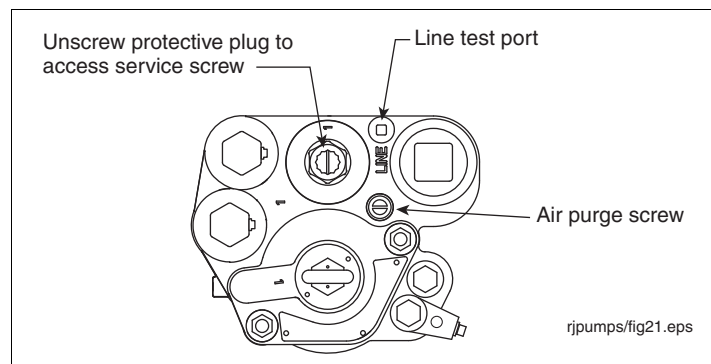

Figure 37. Service Screw, Line Test Port And Air Purge Screw Locations
3. Remove line test port plug (see Figure 37). Apply line test pressure at line test port (50 psi [345 kPa] maximum).
6. Turn the air purge screw 2 - 3 turns counterclockwise (see Figure 37).
1. Remove and retain the protective plug over service screw and turn the screw clockwise (see Figure 37). As the screw approaches its bottom position, you will hear the system depressurizing. Continue turning the screw until it can go no further.
5. Turn the air purge screw 2 - 3 turns counterclockwise (see Figure 37).